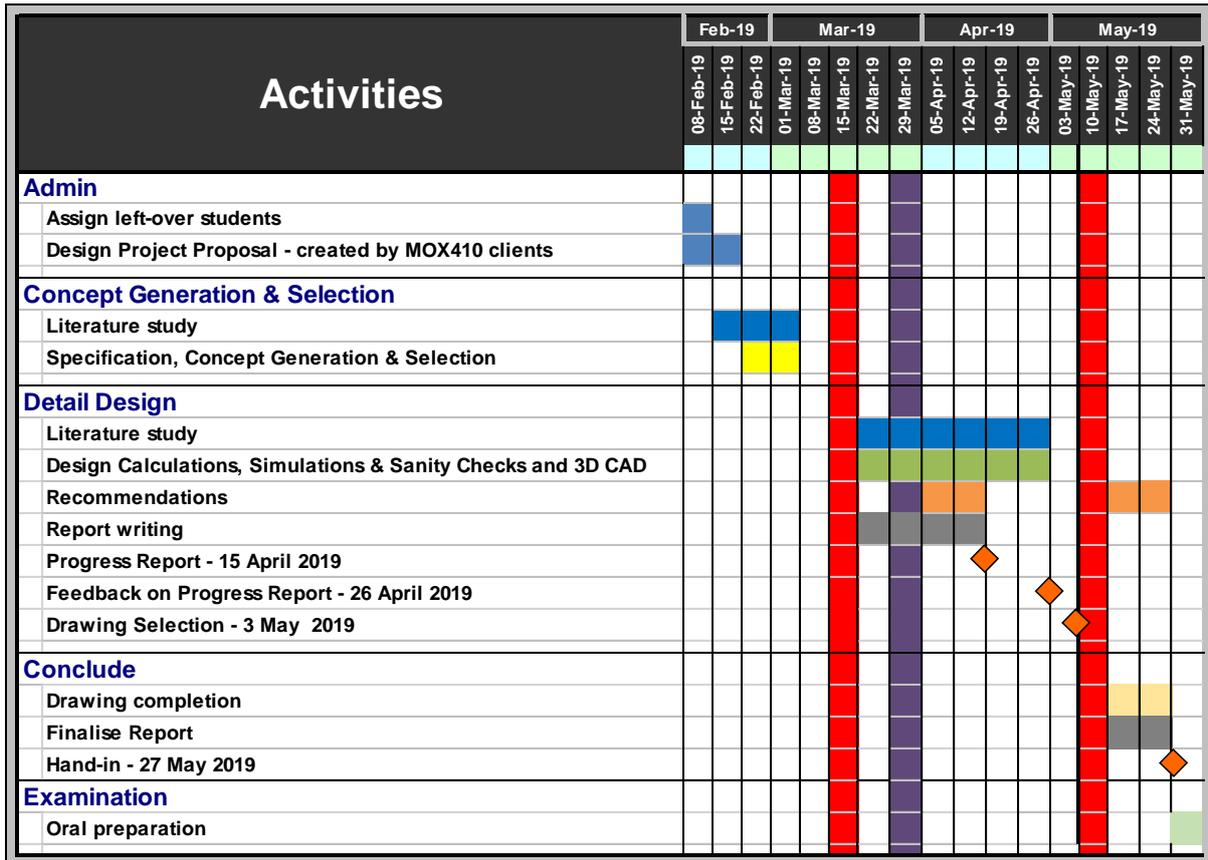

Figure 1: Generic MOX410 - 2019 Gantt chart
4. Set up a unique project plan should the client deem it necessary deviate significantly from the generic MOX410 - 2019 Gantt chart in Figure 1.